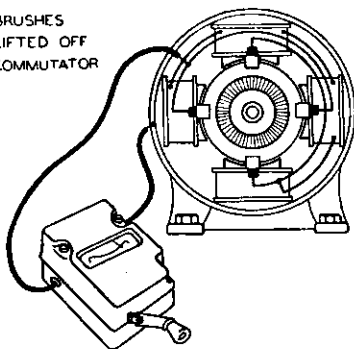

Figure 8
2. With the brushes lifted from contact with the commutator (Figure 8);